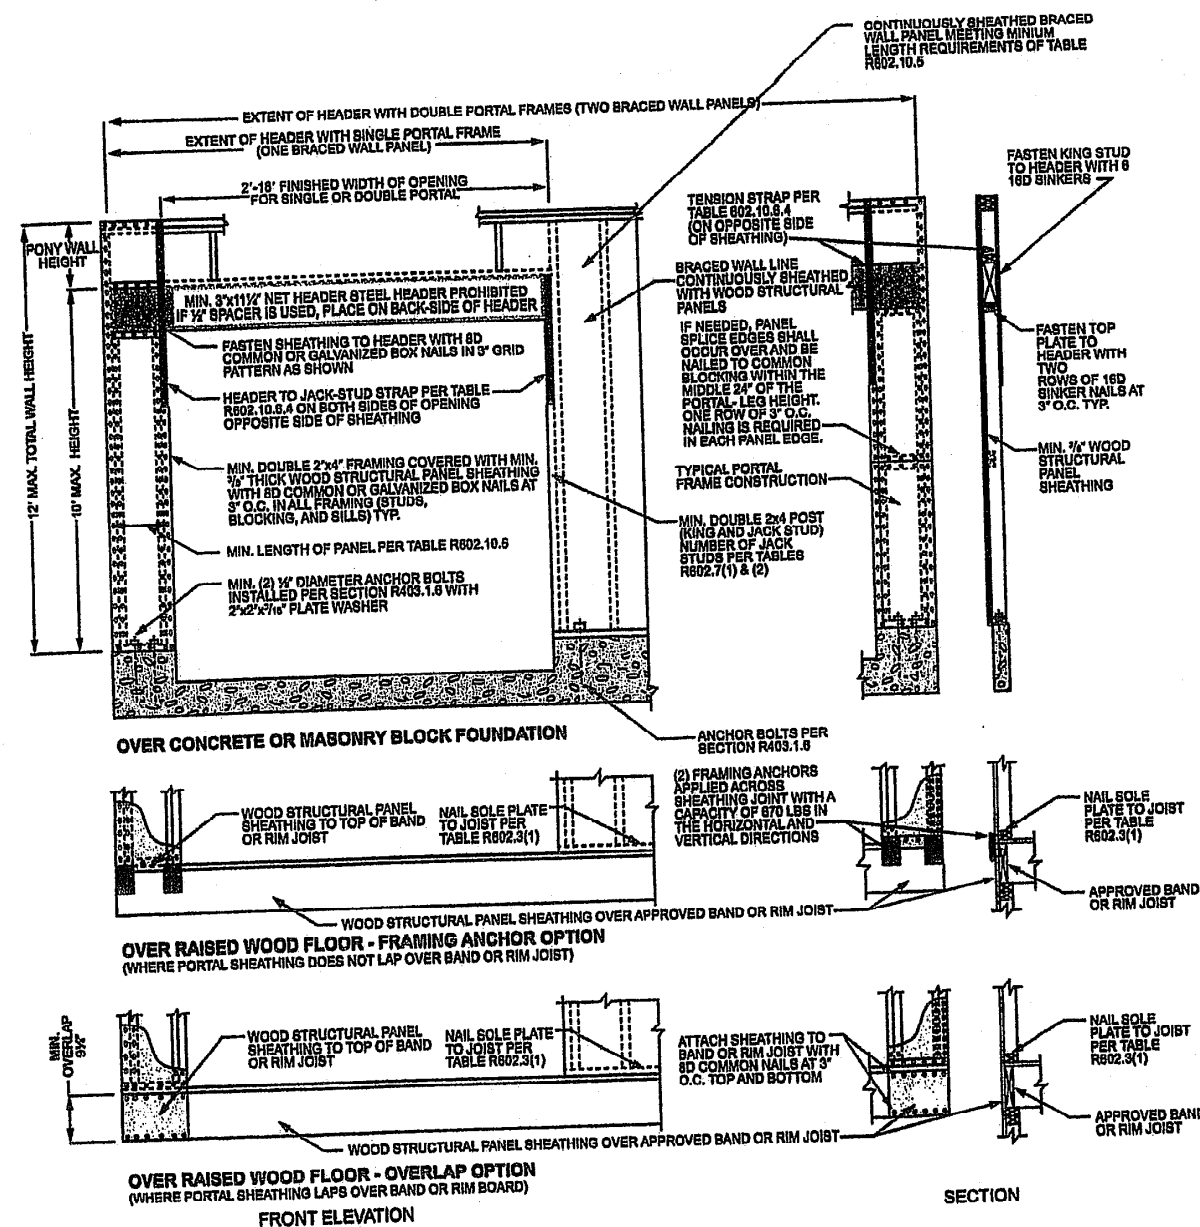

FIGURE R602.10.6.4
d. Maximum header height for PFG is 10 feet in accordance with Figure R602.10.6.3, but wall height shall be permitted to be increased to 12 feet with pony wall.
e. Maximum header height for CS-PF is 10 feet in accordance with Figure R602.10.6.4, but wall height shall be permitted to be increased to 12 feet with pony wall.